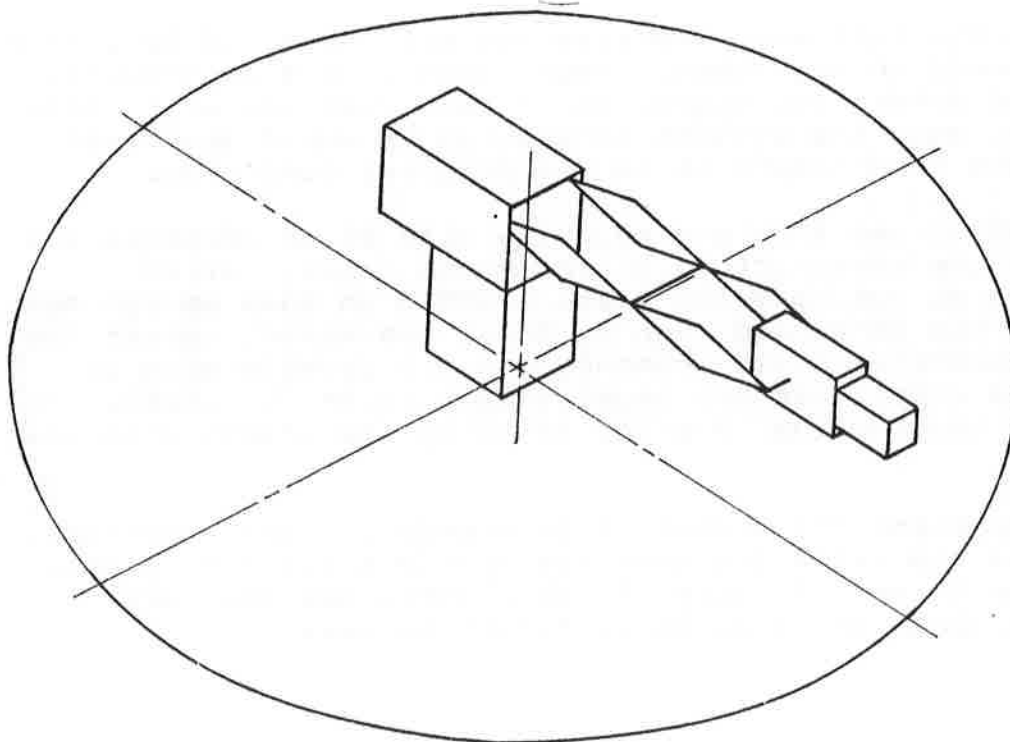

Figure 6.1 Robot Safety Line
1. Place a large sheet of paper (at least 3' by 3') or cardboard under the robot and outline the work area with a marker. To do this you will need to have the Rhino robot and controller with the Apple computer all connected and ready to operate. Locate the robot in the center of the table with the paper between the table and the robot. Use the KEYBOARD MOVES program to extend the robot arm into fully horizontal position. Slowly move the Rhino through a 360 degree motion and use the marker to scribe a circle 3 inches larger than the actual reach of the robot. Also draw a line around the base of the robot to indicate exactly where it is placed. Figure 6.1 shows the layout of the safety line.